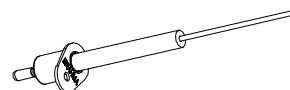

Fig. 4
- For BTXXXG in gas appliances the flame detection occurs through the rectification principle of the flame with electrodes (fig. 4); for the features see relevant technical data. In appliances where the temperature is excessive and so the detection electrode is compromised, it's possible to use sensors FD1-FD2 (12/24V fig. 5); which detect the flame signal through the ultraviolet radiation it emits (see relevant technical data).
Both applications, oil/gas, with UV option, you can use the UV phototubes (UV1, UV2, UV3 types of Fig. 5), for the features, see the technical note. In case of using the photodiode FD.. or UV.. phototube orientate the sensor towards the flame until maximum possible flame signal is obtained. The following figures (Fig. 4, 5, 6, 7 e 8) show the various possibilities to choose the best sensor (accessories supplied upon request).